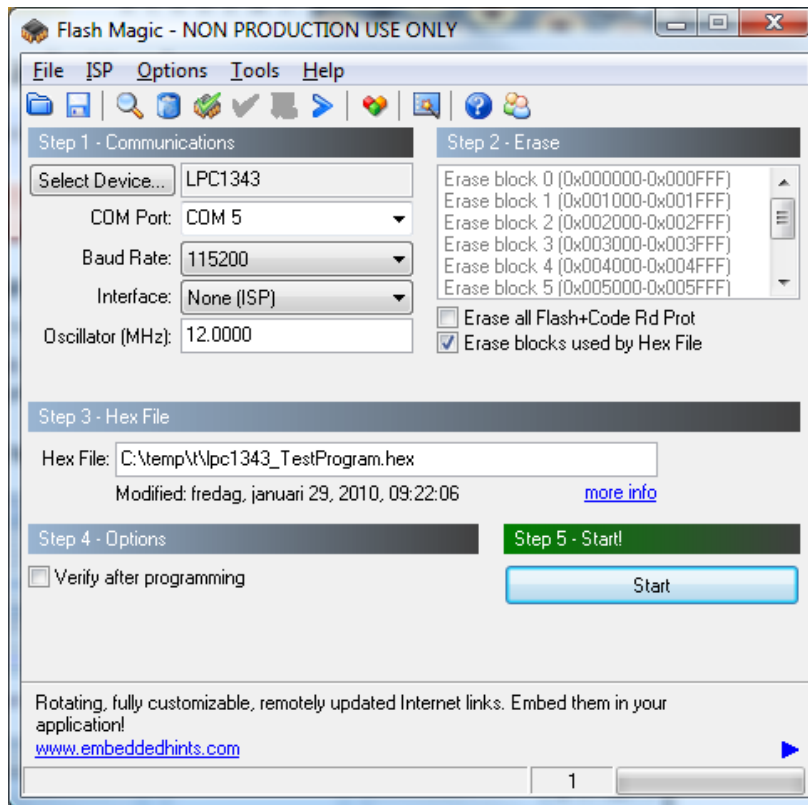

Figure 19 Flash Magic
5. Start Flash Magic, select correct Device, COM Port (the COM port associated with the target, section 3.4.1 describes the USB-to-UART bridge). Set baud rate to 115200, Interface to None and Oscillator to 12 MHz. Browse to the hex file you would like to download, see Figure 19 for an example.